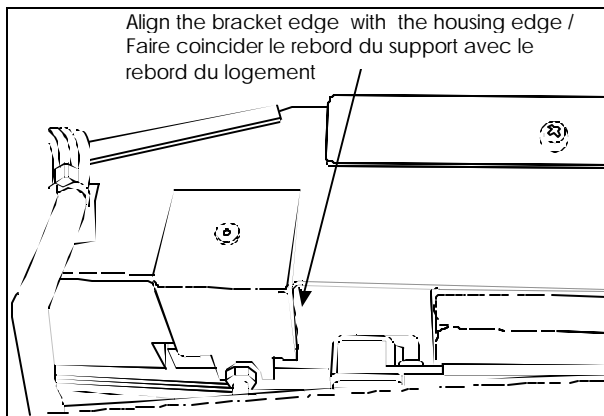

FIGURE 2 : BRACKET POSITIONNING
1. Use the brackets (Prévost #392152) to position the drilling. Align the bracket edge with the housing edge (figure 2 & 3).